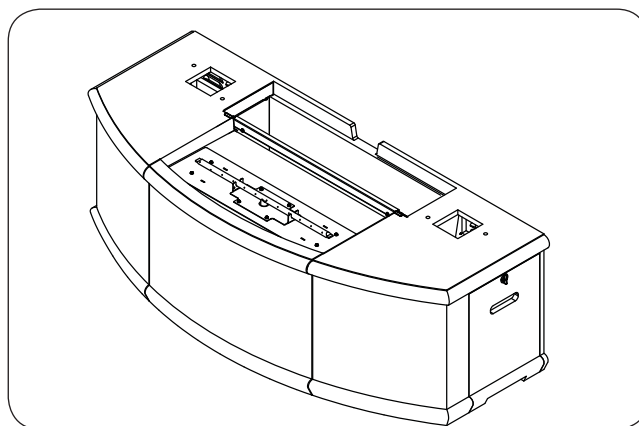

Fig. 19-1 Place hearth
1. **CAREFULLY** place the hearth piece in an appropriate location (refer back to the LOCATION section if needed). See Fig. 19-1.